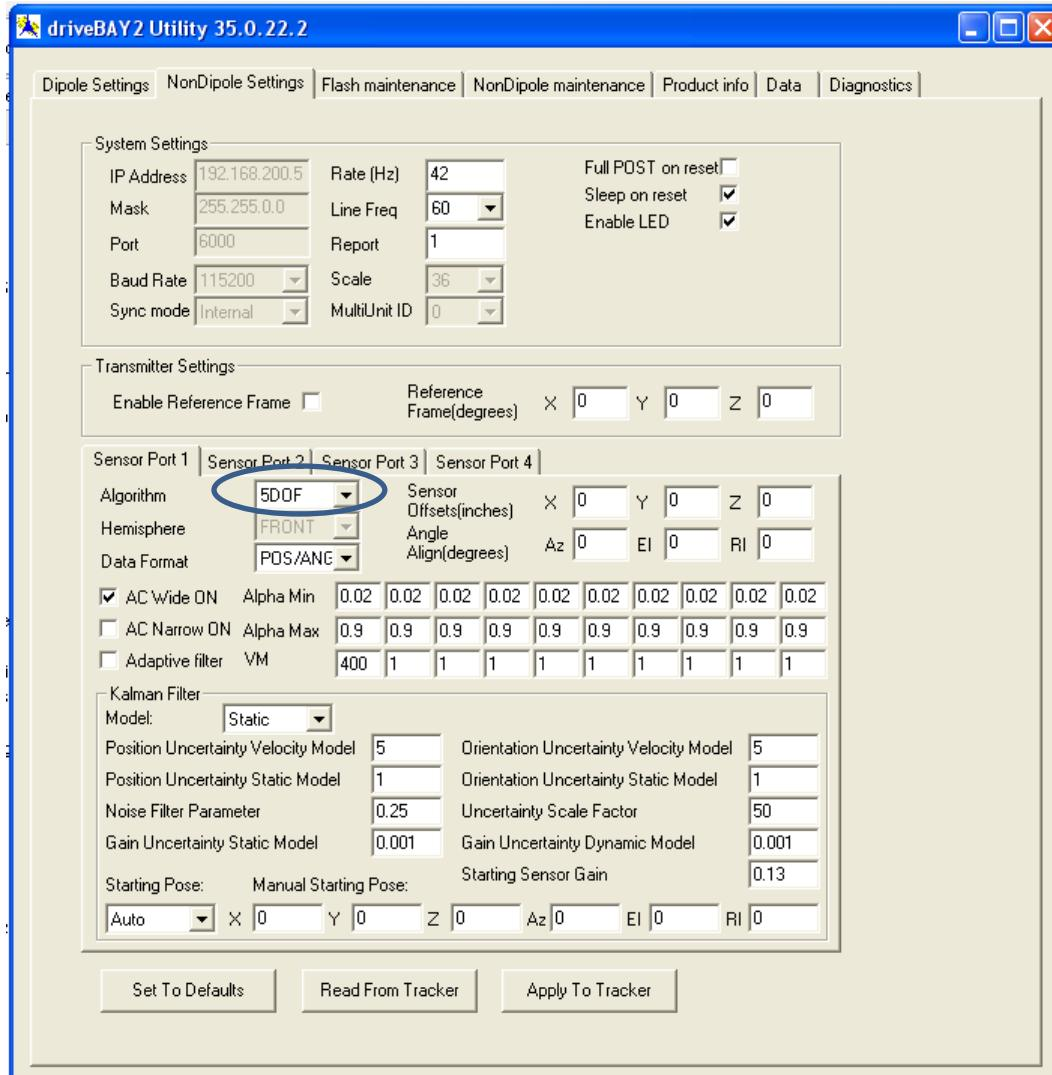

Figure 45 Changing settings for 5DOF operation on Sensor Port1
- 3) Change the following setting to utilize your 5DOF sensor (see Figure 45 below):